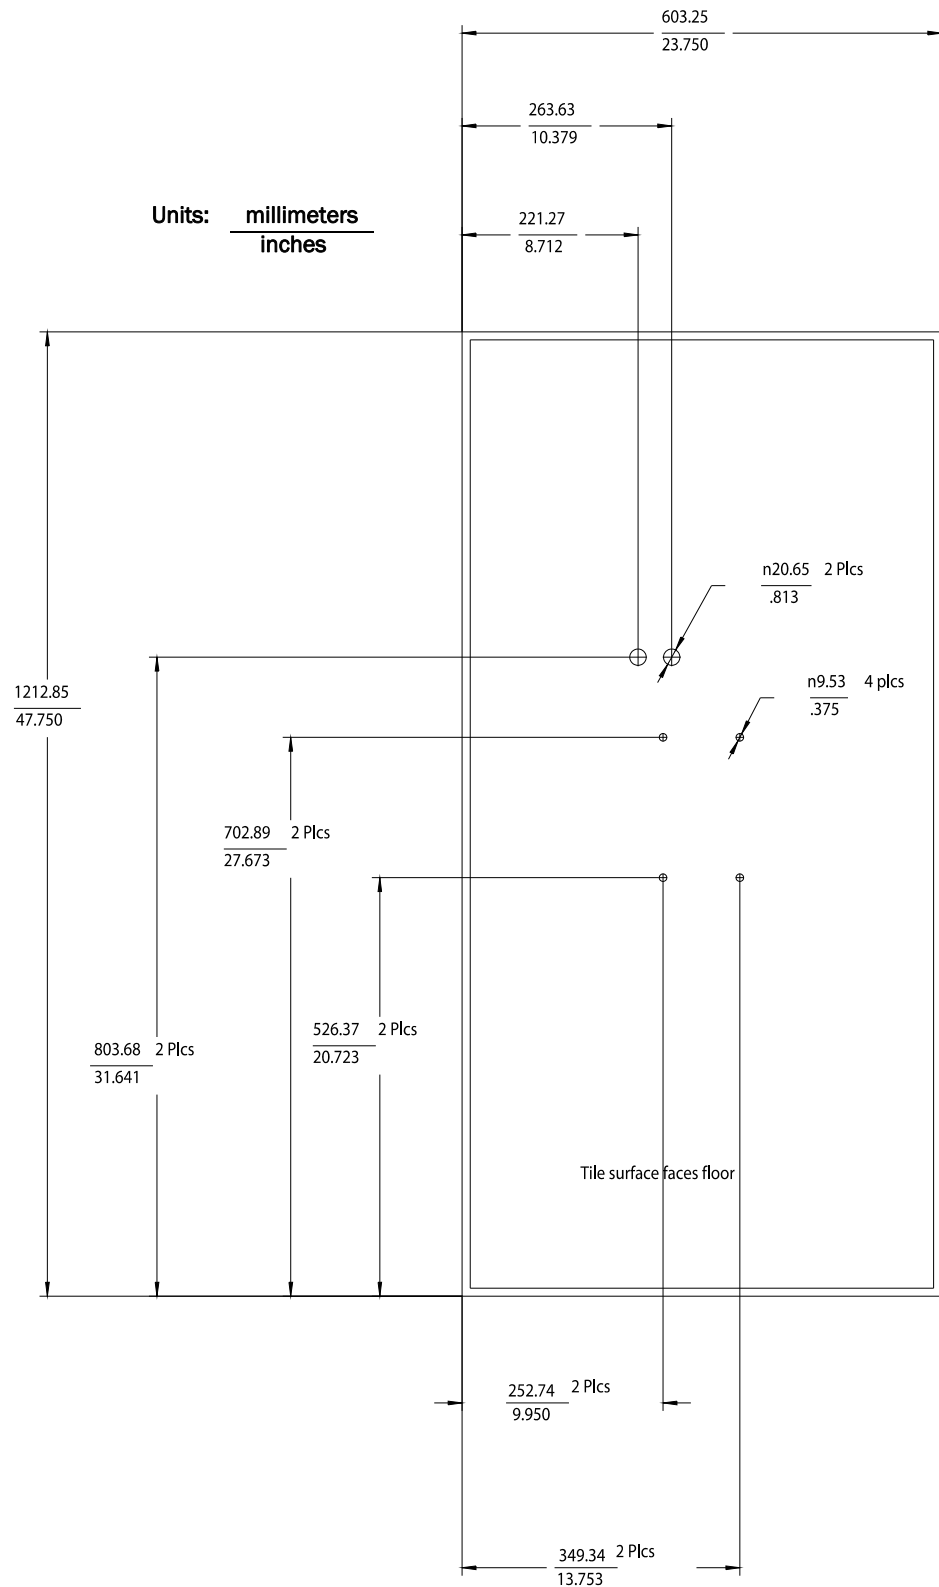

Figure 2-10: Core AP Below Ceiling Tile Hole Locations and Dimensions
3. Refer to Figure 2-10 for all dimensions and hole locations. Place the mounting rails across the tile (underside of tile). For ceiling tiles that are smaller than standard 2' x 4' size ceiling tile, the mounting rails can be cut down in length at the u-shaped cutouts.